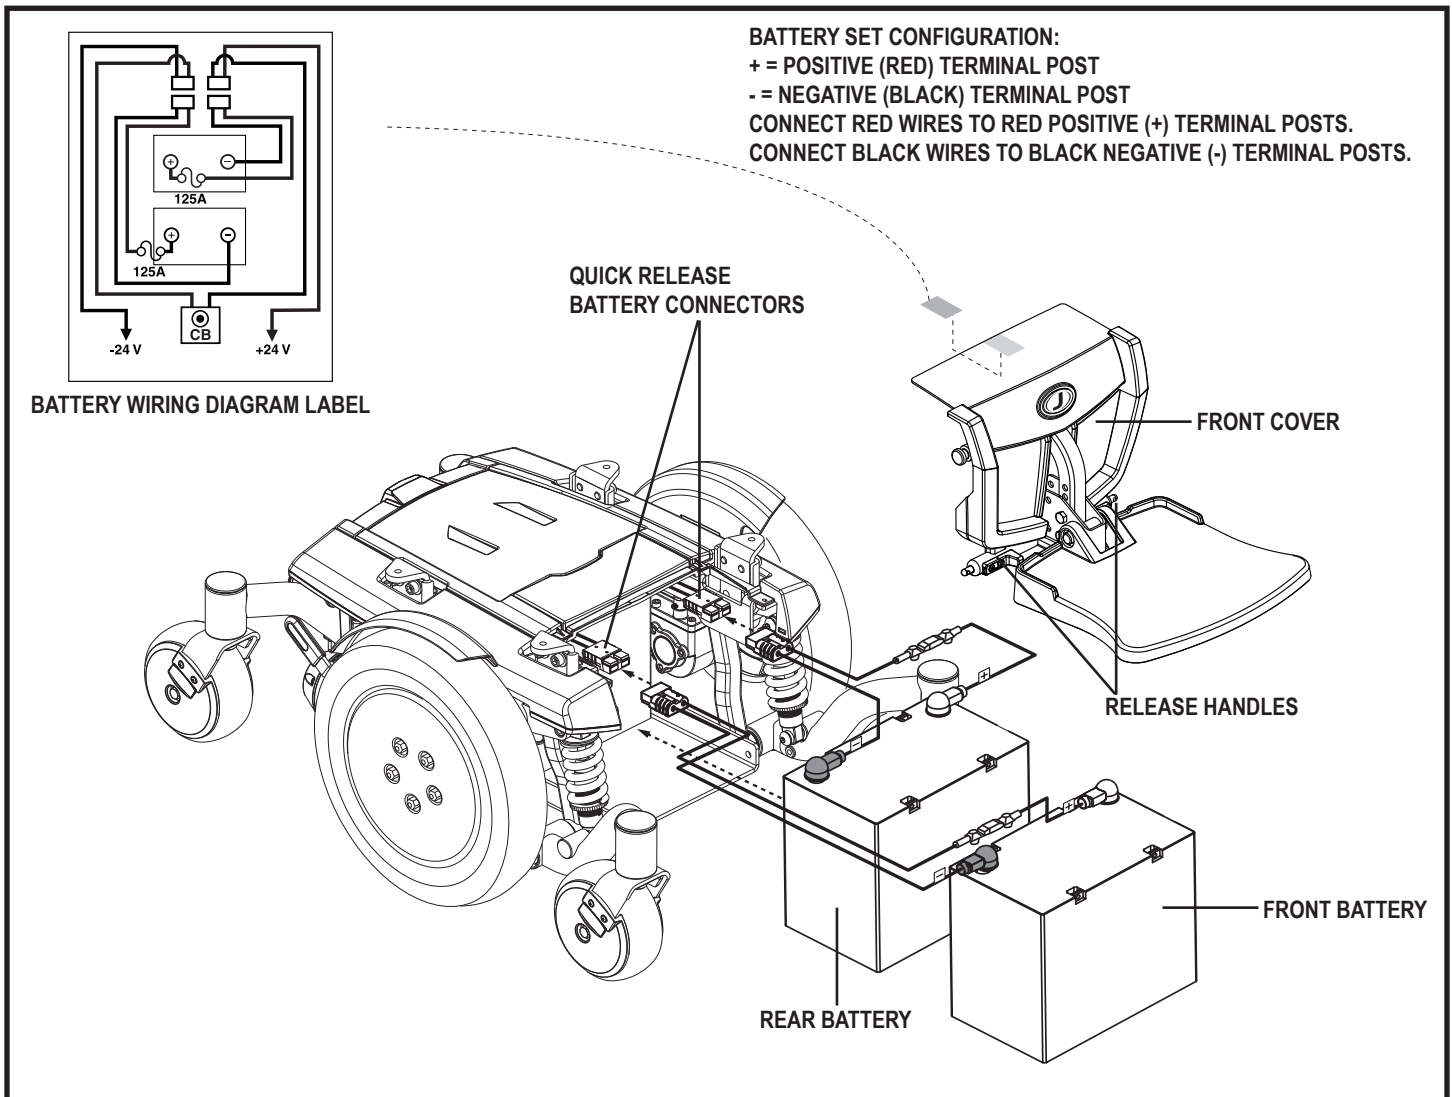

Figure 24. Battery Installation
3. Remove the front cover by squeezing the release handles (see figure 24) and lifting the foot platform bracket up and away from the power base.
4. Disconnect the quick release battery connectors. See figure 24.
7. Connect the battery harness to the new front battery according to the battery wiring diagram. See figure 24.
8. Connect the battery harness to the new rear battery according to the battery wiring diagram. See figure 24.